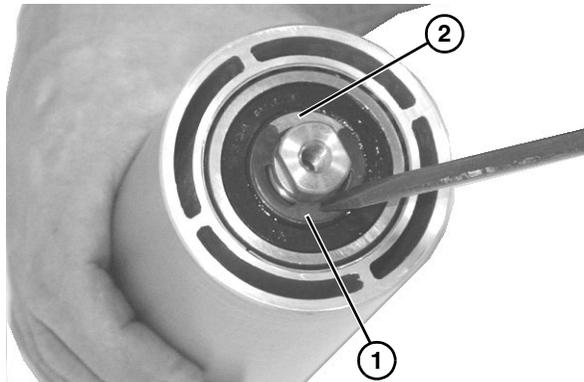

Figure 45
5. Remove the spindle shaft assembly: remove the clip ring (Figure 45, item 1) and washer (Figure 45, item 2) from one side of the spindle assembly.